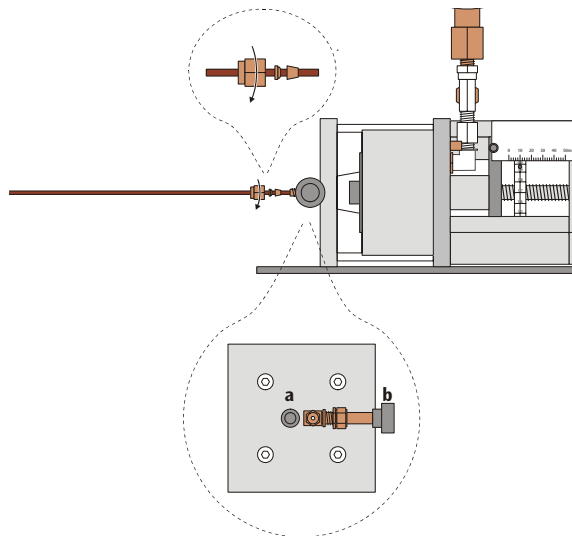

Fig. 3: Connecting a fixed pipe
- Beginning with the valve nut, slide the supplied screw joints onto the tubing. (See Fig. 3: follow the sequence and alignment specified along with the cable binder)